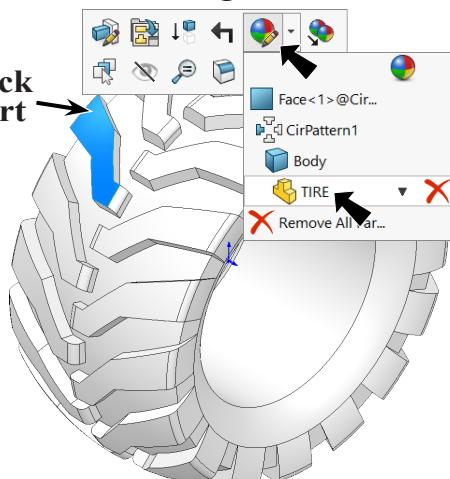

Fig. 41
Step 1. Click the part to select part, click **Appearances Callout** on the context toolbar and click **TIRE** , **Fig. 41**.